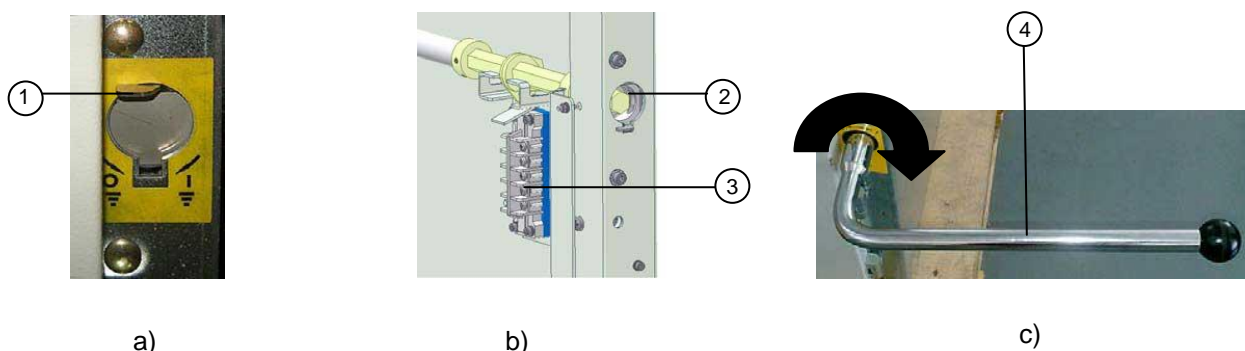

Figure 25
The ES is applicable for indoor installation and fitted with a snap-action operating mechanism for high-speed closing. It is designed to conduct the rated short circuit current. The ES shall be operated through a rotating hexagonal shaft ② (see Figure 25) by the operating lever ④. The cover ① should be pushed down before the operation of the ES shaft.
Position of the ES is shown on the label (see Figure 25 a):